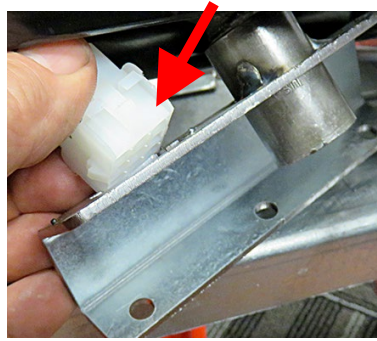

Figure 42
- 41. Re-attach the 9-pin female connector to the dispose assembly if applicable (see Figure 42).